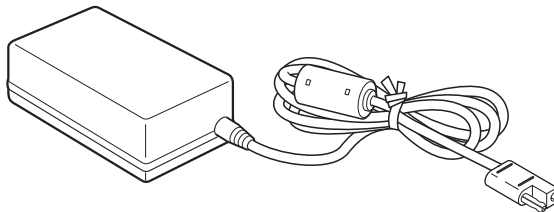

Figure 1-10. Power Supply Unit
**The Power Supply unit** (p/n 22-034101-01) charges the internal batteries when connected to a grounded outlet (Figure 1-10). This unit converts the alternating current (AC) normally supplied from an electrical outlet to a direct current (DC) used to charge the batteries and/or power the receiver.